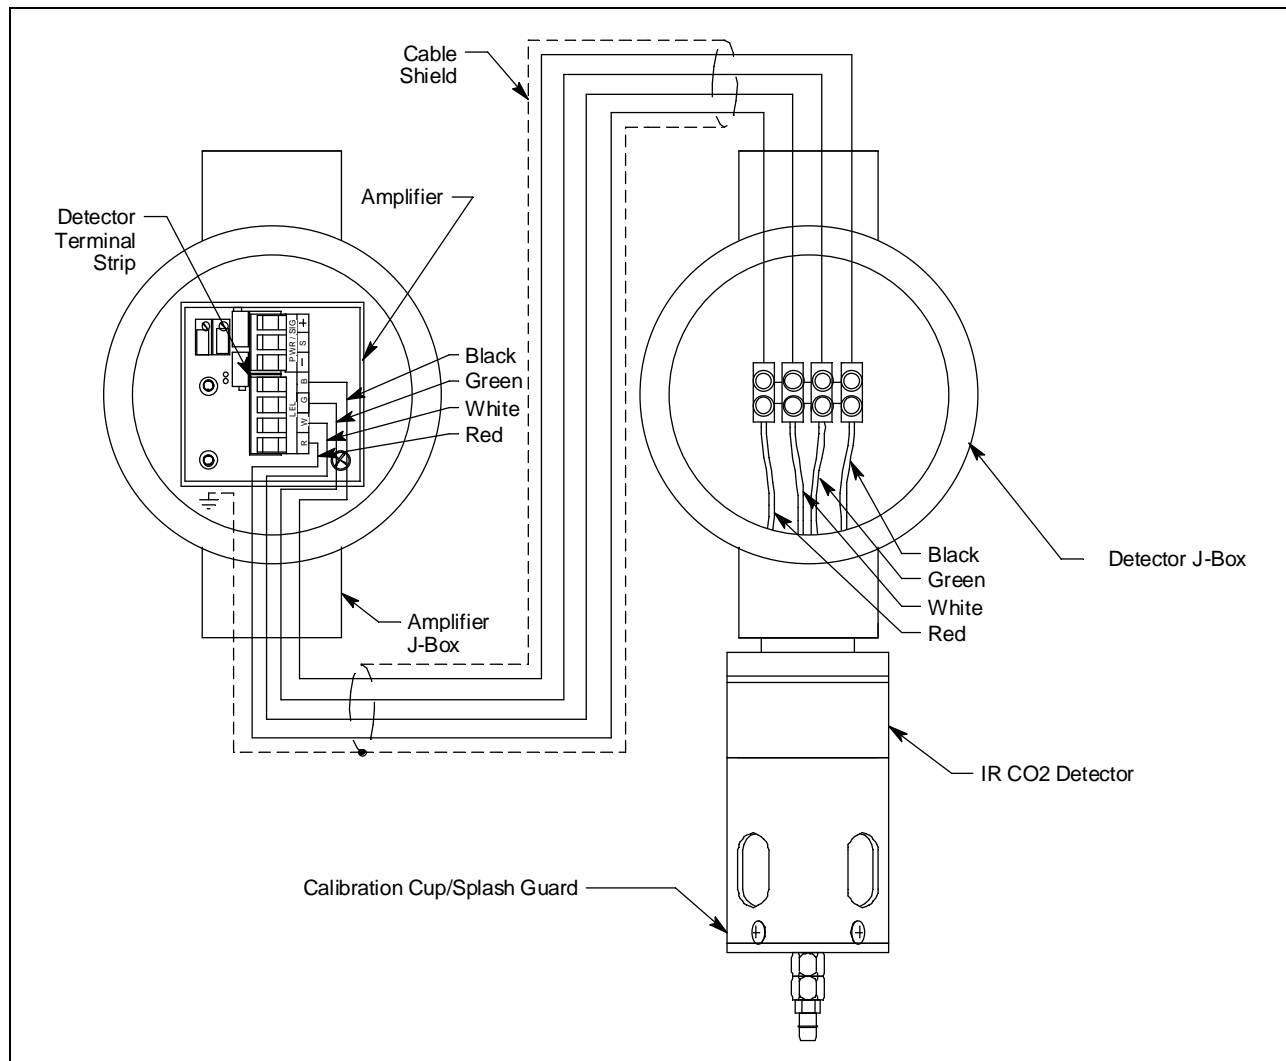

Figure 5: Wiring the Detector to the Amplifier
9. Pull out the detector terminal strip and connect the four wires to the terminal strip as follows (see Figure 5).